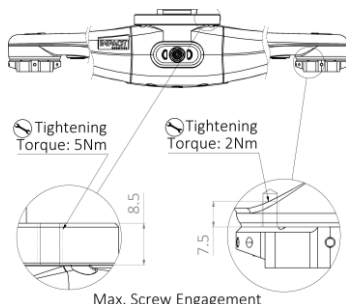

Figure 6: Maximum screw engagement for PQ180's robot and tool couplers
Every pneumagiQ PQ180 has two tool mounting faces and each of them requires a tool coupler (sold separately). Make sure to use the correct fasteners and O-rings while assembling the tool coupler and follow the tightening torques as given in the Figure 6.
While mounting the pneumatic EOAT to the tool coupler or while mounting the robot coupler to pneumagiQ PQ180, always take into consideration the maximum screw engagement and tightening torque as given in Figure 6.
Insert the dowel pins to the robot coupler and then use the fasteners to fasten the robot coupler to PQ180. Every robot coupler comes with a fastener kit with all the necessary fasteners to mount to PQ180 and the robot. Ensure to follow the tightening torques as given in the Figure 6.
1. The maximum screw engagement for the robot and tool coupler is given in Figure 6.
2. The tightening torque of the robot and tool coupler is $\pm 5\%$ of the value given in Figure 6.